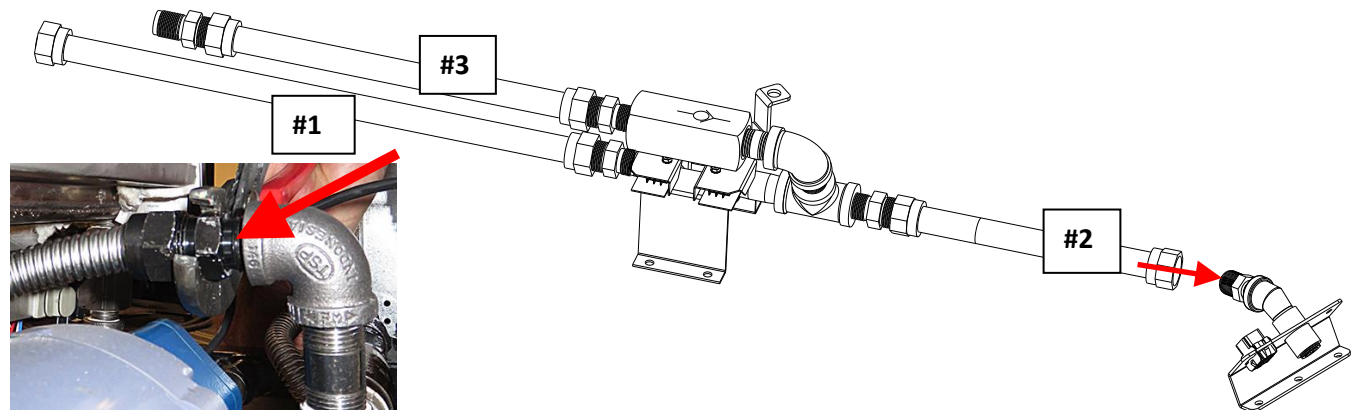
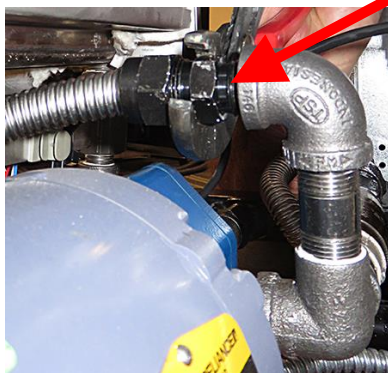

Figure 70
Figure 71
69. Using Figure 70 below as a guide, route the flexline #1 around the switch assembly and up over flexline #2 and attach to the outlet of the filter pump (see Figure 71).
99. Attach the #3 flexline from the check valve on the dispose assembly (see Figure 70), to the flexline connector, attached to the drain tube in step 96 (see Figure 94).